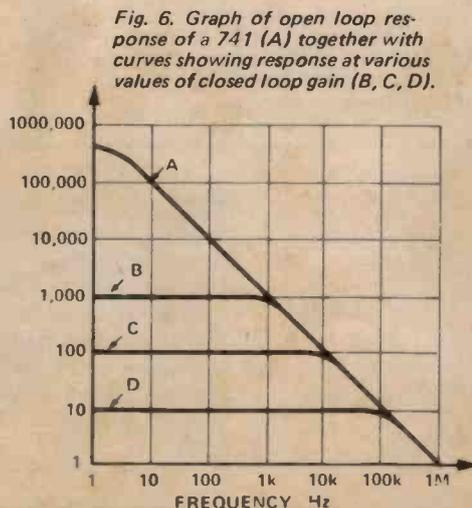

Fig. 6. Graph of open loop response of a 741 (A) together with curves showing response at various values of closed loop gain (B, C, D).
For example, if you want the amplifier to have a gain of 100, then the maximum frequency at which this gain can be obtained is 10 kHz. Figure 6 illustrates this phenomenon. Curve A is the open loop response, note that the voltage gain is 1 at 1 MHz, hence the gain bandwidth product of 1 MHz. The slope of the curve is -20 dB/decade, which is caused by a single 30 pf capacitor inside the IC. Now, if the resistor ratio is set to give a voltage gain of 100, then the op-amp gives a frequency response shown by curve C, which is flat up until 10 kHz. A gain off 10 rolls off at 100 kHz (D) and a gain of 1 000 rolls off at 1 kHz (B). Thus it is very easy to see just what the closed loop frequency response will be. However, don't forget the slew rate problem. You may be able to construct an amplifier with a voltage gain of 10, which works up to 100 kHz, but the output voltage will be limited to less than 3 Vpp! Another problem is distortion in the op-amp. Negative feedback is used to iron out any distortion generated by the op-amp, but negative feedback relies on there being some spare voltage gain available. For instance, say the op-amp generates 10% distortion and there is a surplus voltage gain of 1 000,